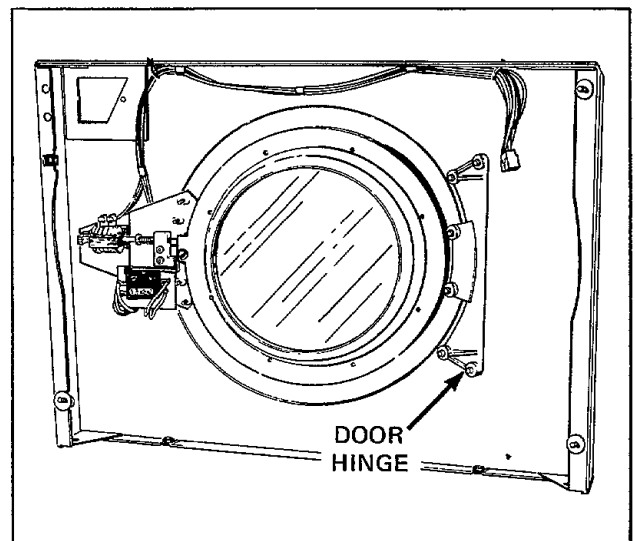

Figure 16
- d. Remove two wire harness clips from top flange of front panel, *Figure 16*.